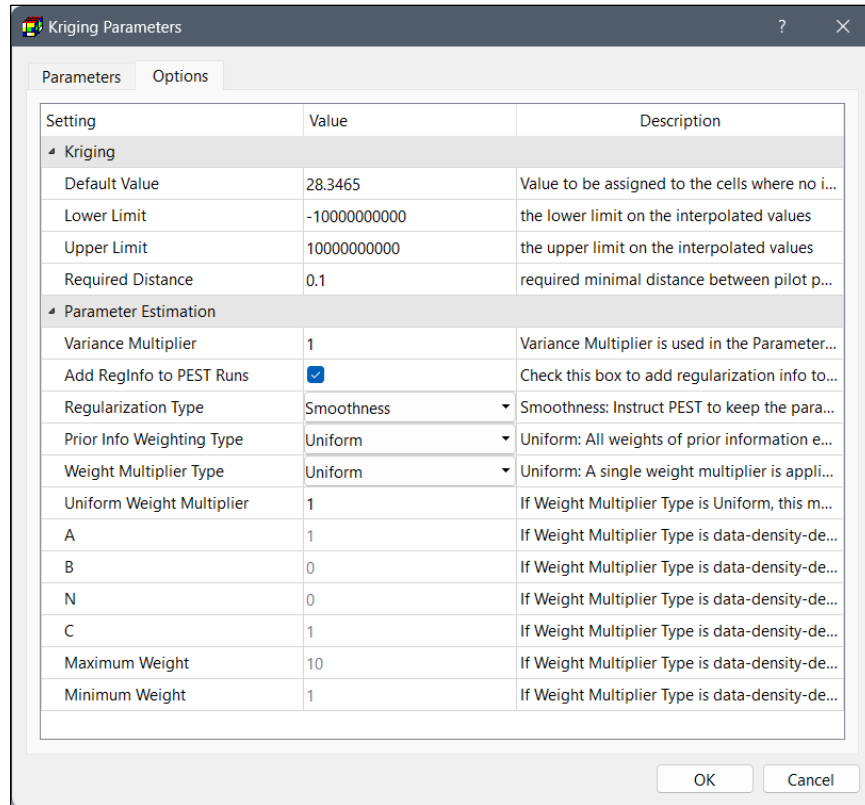

Figure 31. The Options tab of the Kriging Parameters dialog box
Integration with PEST is controlled via the Parameter Estimation section on the Options tab (Figure 31).
2. Options Tab (Figure 31)